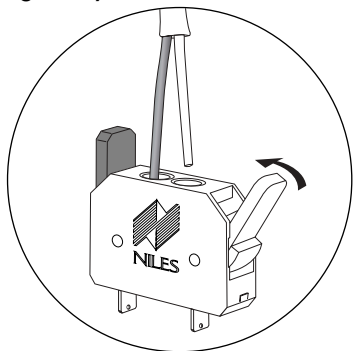

Figure 14
3. Insert one stripped wire fully into the black and one into the red terminal. Pay attention to the markings on the wire. Each speaker must be connected to the amplifier in the same way. If unsure, see section “Speaker Phase” located on the following page. Squeeze the red and black levers until they click signifying that they have locked into the wire. Check to make sure that the knife assembly inside the no strip connector has properly pierced the wire (See Figure 14).